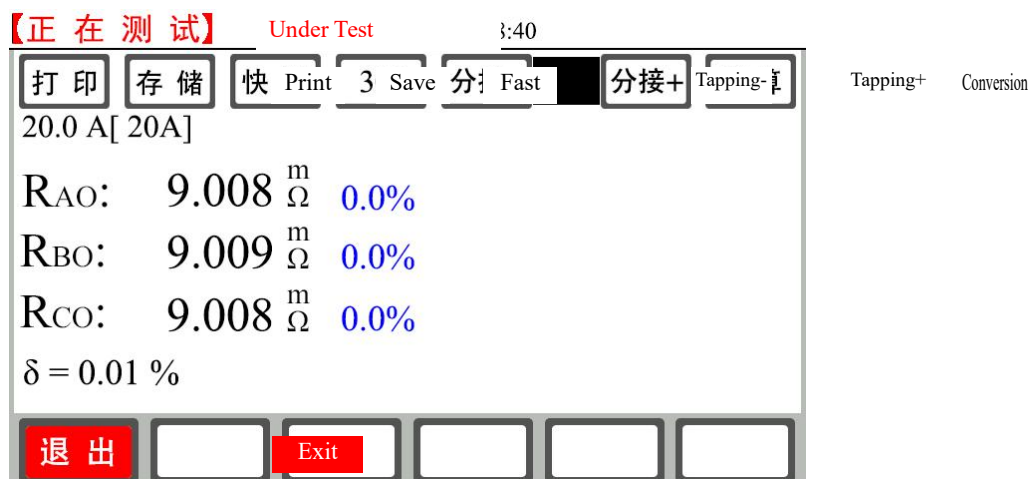

Figure 10
6.2 After starting the test, the display screen indicates the value of the test charge current while giving the prompt “Recharging...”; in addition, the system clock starts timing and shows the test time from charging. After the test current reaches the preset current and is stable, the prompt “Under Test” is given and then the tested AO, BO and CO three-phase resistance values and the three-phase balance ratio δ are simultaneously displayed. Observe the stability of the test current value and resistance value. The instrument conducts continuous tests (as shown in Figure 10). During "YN three-phase" test, BO phase is stabilized quickly, AO and CO phases are stabilized slowly, and their stabilization time is relatively long. This belongs to a normal phenomenon. To adjust the on-load tap-changer, there is no need for stopping test and you can directly switch to tapping test. For the no-load tap changer, you can switch to tapping after stopping test and completing discharging. Other auxiliary function operations are the same as those in single-channel test. For details, see 6.1 “Single-channel” test.